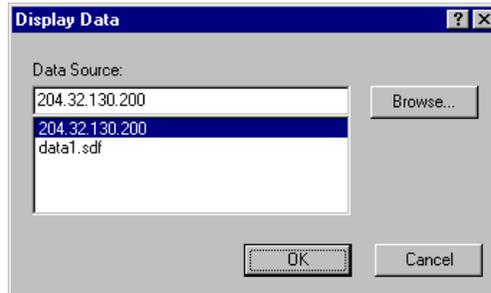

Figure 5-27. Display Data
1. Click Display Data. A display Data dialog box opens (Figure 5-27).